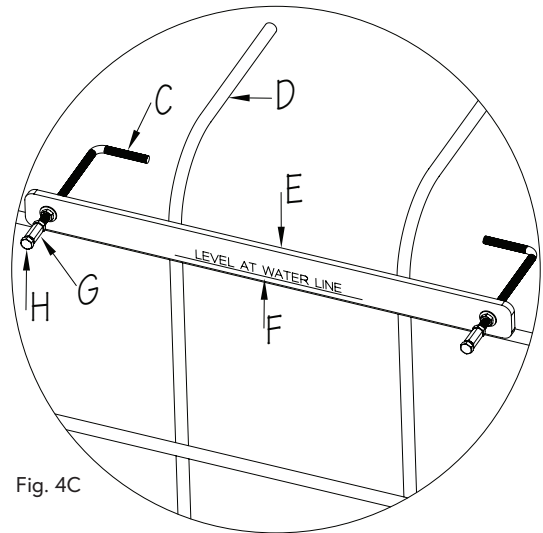

Fig. 4C
The Grab Bar Mounting Kit should be centered above the Fastlane Tread Mounting Kit. Position the Bracket (E) so that the "Waterline" marking (F), engraved into the bracket, sits along the pool's expected waterline. In addition, the Coupler (G) should be flush with the expected finished pool wall. The Sacrificial Bolt (H) will be removed after the finish coat application. Once in position, secure the Threaded Rods (C) to the Rebar Grid (D) using rebar ties (Fig. 4C). Refer to the detail drawing on the following page to supplement these instructions.